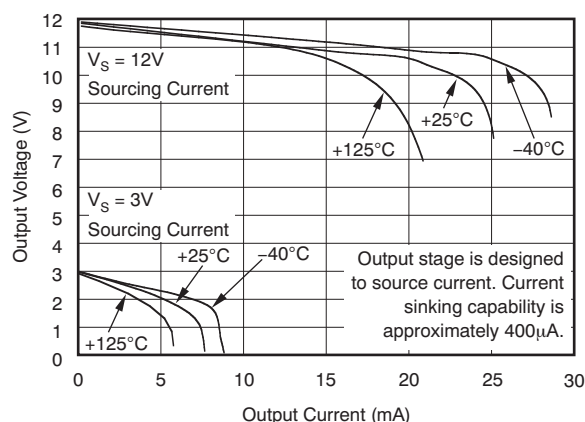

Figure 7.
(1) Total output error includes effects of gain error and V_{OS} .
(2) For details on this region of operation, see the Accuracy Variations section in the Applications Information.
(3) See Typical Characteristic curve *Output Swing vs Output Current*, Figure 7.
(4) Specified by design.